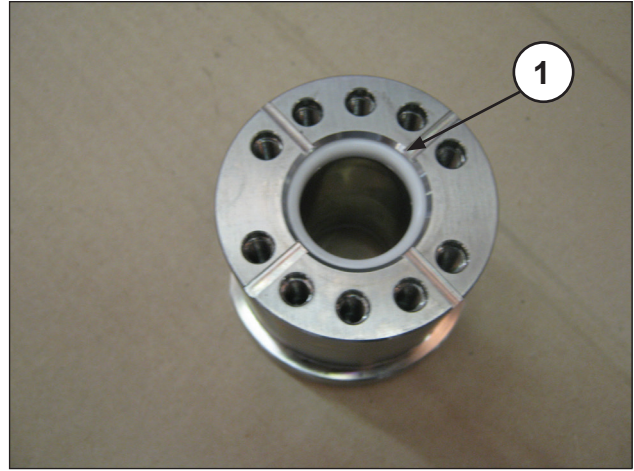

Fig. 119
- Insert the seal into the liner (Fig. 119, pos. ①).